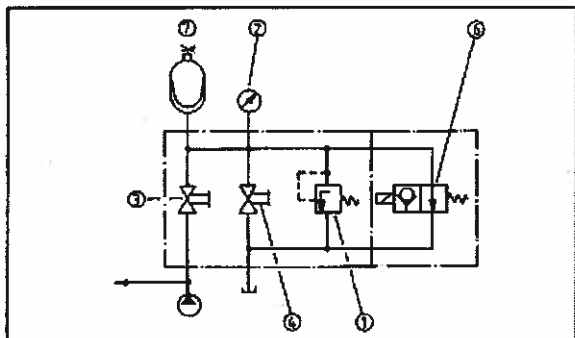

Fig. 1; Schematic of a HYDAC Safety and Shut-off Block:
This method requires that a pressure gauge be installed on the safety and shut-off block (fig. 1, item 2) or similar device, which is connected directly to the accumulator. The procedure utilizing the SAB Block is as follows:
- Close shut-off valve (fig. 1, item 3).
- Discharge fluid slowly, by opening the manual bleed valve (fig. 1, item 4).
The Hydac safety and shut-off block (see fig. 1) was designed to incorporate the following safety features: